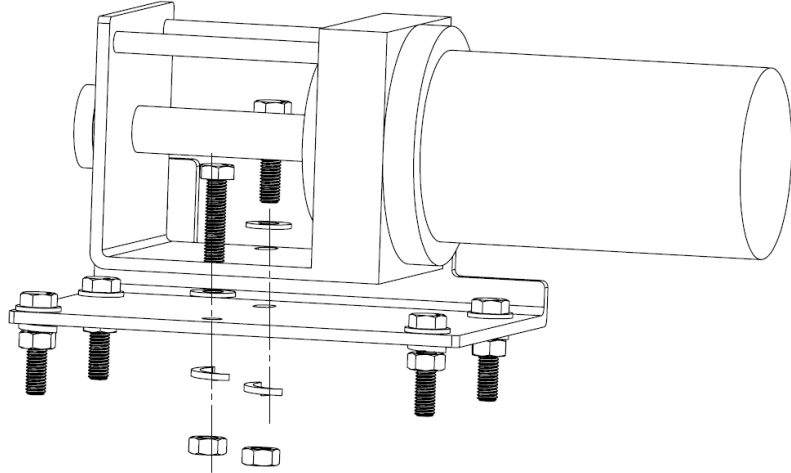

Figure 3: Mounting the winch onto the bracket
3. Then mount the winch onto the bracket, as shown. (See Figure 3)